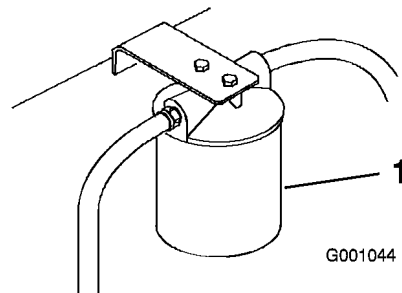

Figure 55
3. Place a drain pan under filter, remove the old filter and wipe the filter adapter gasket surface clean (Figure 55).